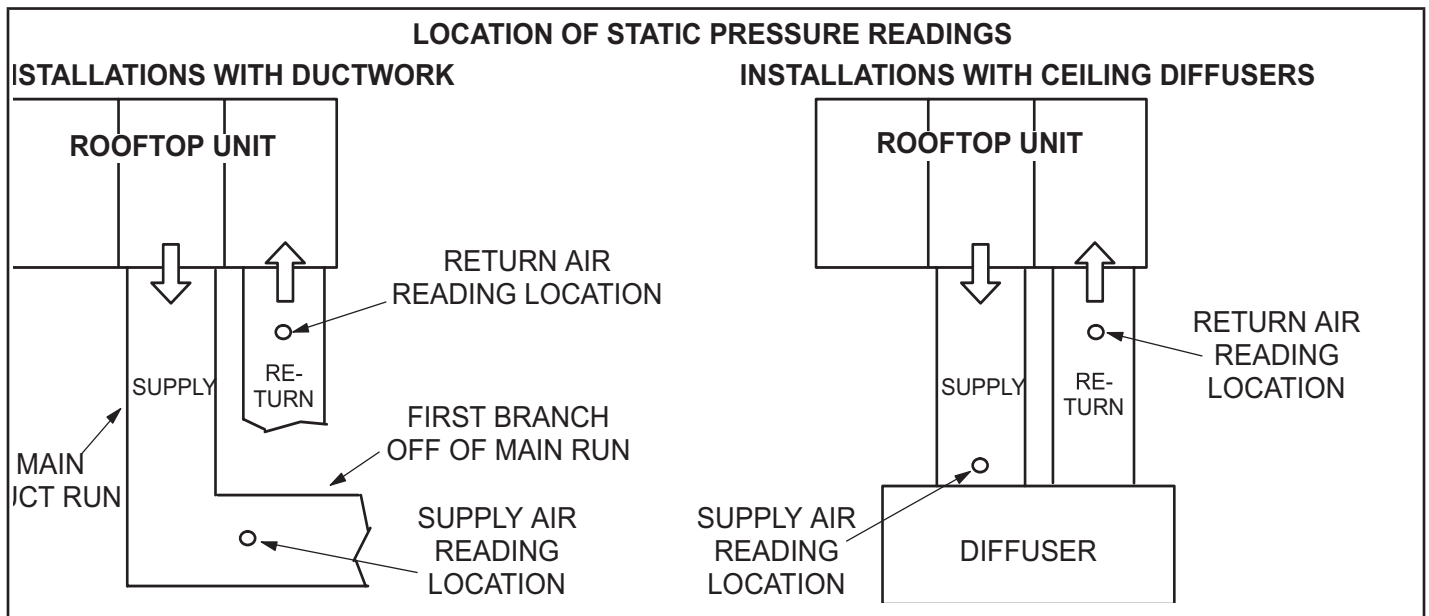

FIGURE 6
- 2 - With all access panels in place, measure static pressure external to unit (from supply to return). Blower performance data is based on static pressure readings taken in locations shown in FIGURE 6.